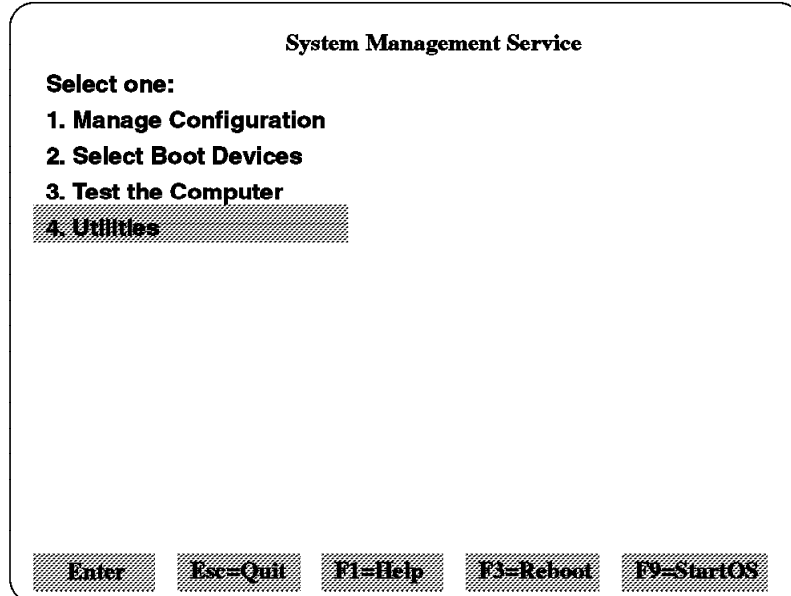

Figure 85. System Management Services. Main menu.
2. As soon as the first screen appears, press **F4**. The RSPC firmware will access the diskette and display a menu similar to the one on Figure 85.